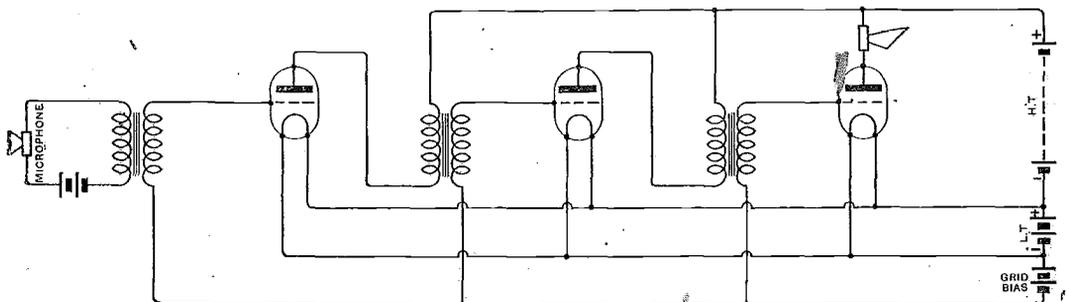

Fig. 1. An amplifier for strengthening the microphone currents.
**W**HEN testing an amplifier connected as in Fig. 1 for use with a microphone, reaction difficulties were encountered, which produced a howl whenever the loud speaker was used.